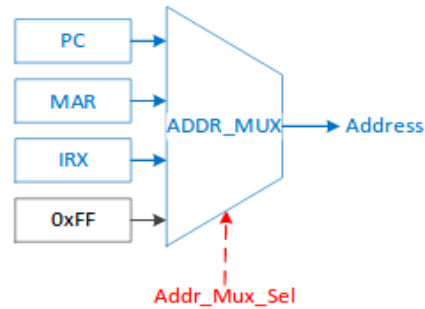

Figure 5: Simple Multiplexer (Mux)
2.4. Implement the multiplexer program that you made in the Prelab, as shown in Figure 5. To test the multiplexer we need to hard wire in Verilog Rst_Addr to 0xFF, PC to the address 0x0A, and MAR to 0x10. Connect IRX to the 8 DIP switches, and Mem_Sel to the 2 push-button switches on the board.